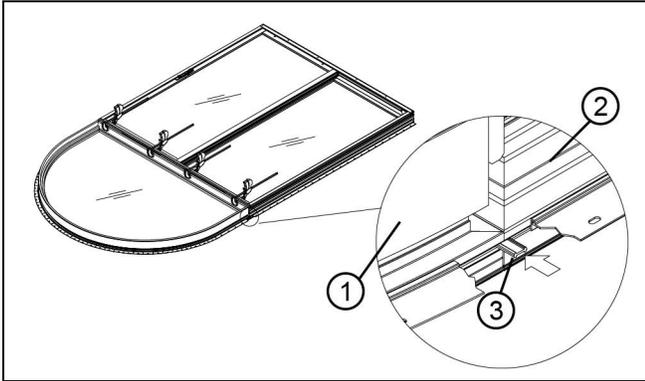

Figure 42
6. Cut the mulling pin 1/2" shorter than the mull joint. Drive mull pin in the full length of sill/head jamb (use hammer if necessary) ensuring it is recessed 1/4" (6) to allow for sealant application later. See Figure 42.